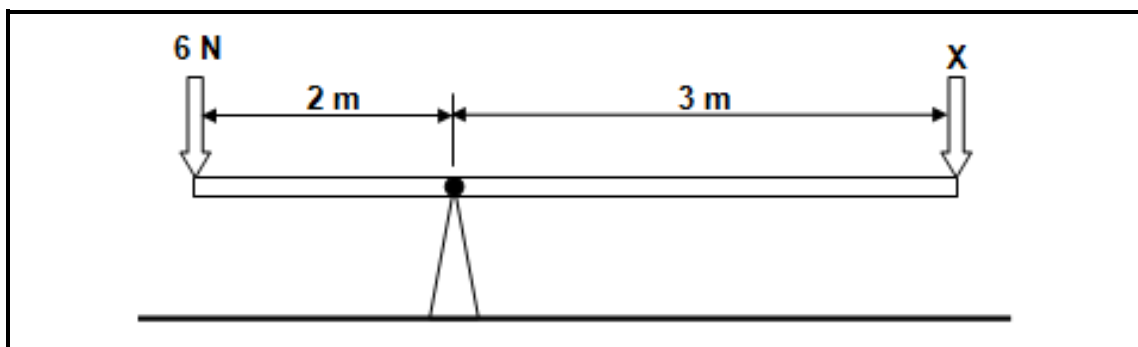

FIGURE 4.6
4.6 What is the magnitude of force **X** shown in FIGURE 4.6 below?